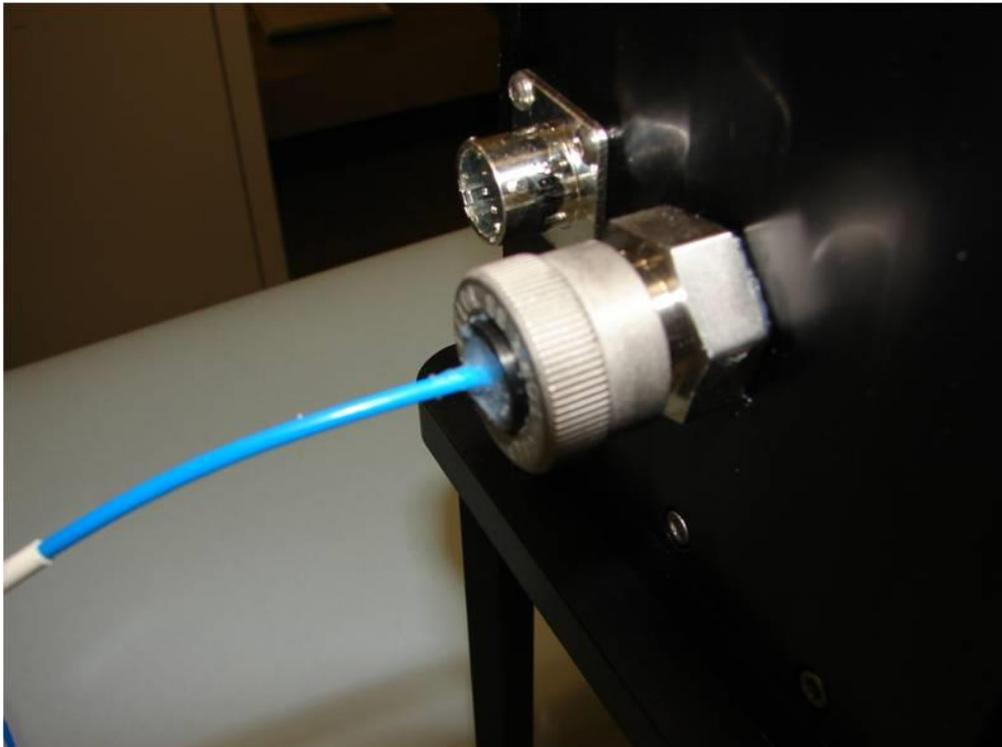

Figure 15: Ultra-Torr Fiber Passthrough Fitting
- 4.6. CAREFULLY loosen the Swagelok UltraTorr nut on the rear of the laser frame where the pump optical fiber passes through (Figure 15). Screw the nut all the way off, and let the nut and the O-ring compression fitting gently rest on the fiber.